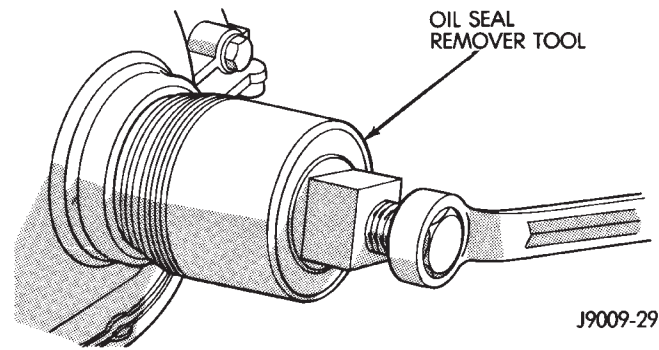

Fig. 2 Timing Case Cover Oil Seal Removal
- (1) Disconnect negative cable from battery.
- (2) Remove the serpentine drive belt.
- (3) Remove the vibration damper.
- (4) Remove the radiator shroud.
- (5) Carefully remove the oil seal (Fig. 2). Make sure seal bore is clean.
- (6) Position the replacement oil seal on Timing Case Cover Alignment and Seal Installation Tool 6139 with seal open end facing inward. Apply a light film of Perfect Seal, or equivalent, on the outside diameter of the seal. Lightly coat the crankshaft with engine oil.